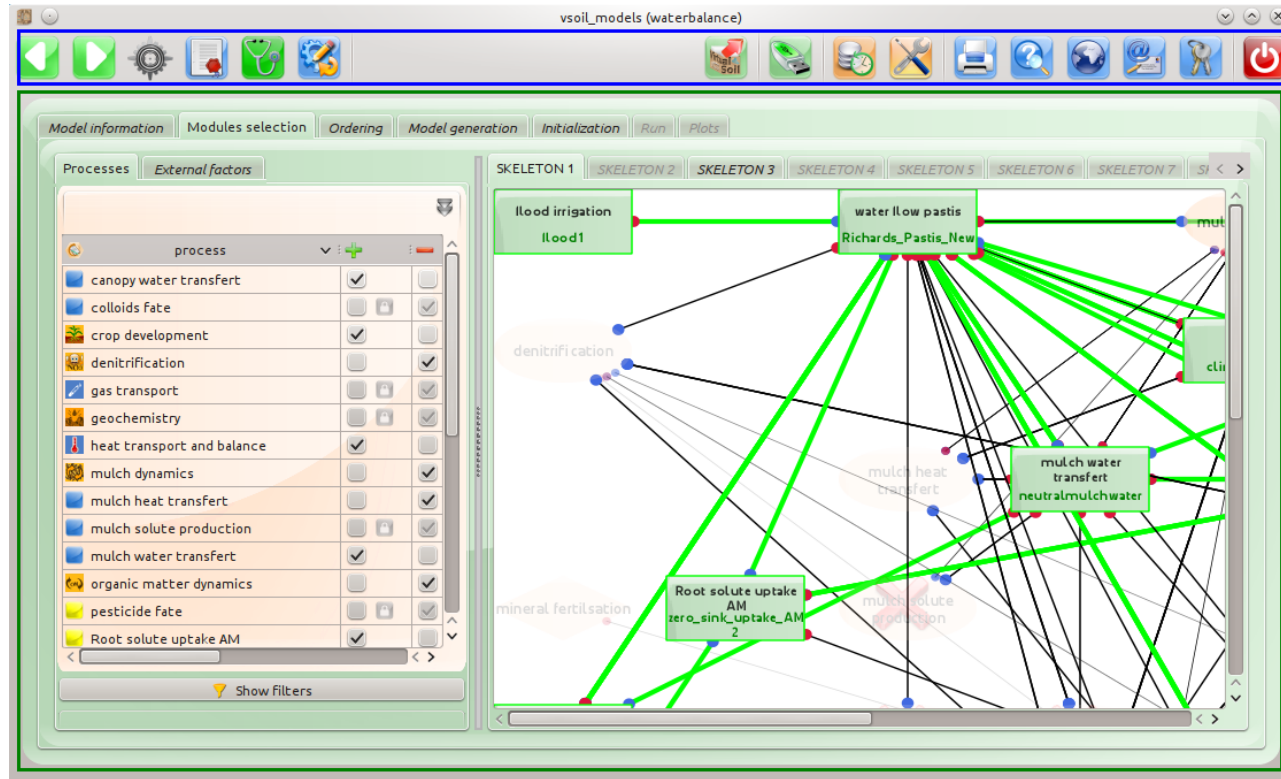
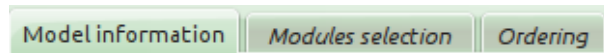

Figure 7: Main functions of the “vsoil-models” application
Figure 14: Tabs representing the three steps required to create a model
The workspace is divided into two parts (see figure 7):
1. Part 1: toolbar (blue frame in the figure 7) divided into two parts:
2. Part 2: access to the different steps to create, modify and use a model (green frame in the figure 7).
Each step corresponds to a tab (see figure 14) in the working environment (see green frame in figure 7).
**Go to the next step:** To do this click on the  button in the toolbar (see the blue frame of the figure 7). If all the information is valid, you go to the next step. If an error is detected, then an error message appears. In the case of creating a model, if the information is valid, then the model is created.